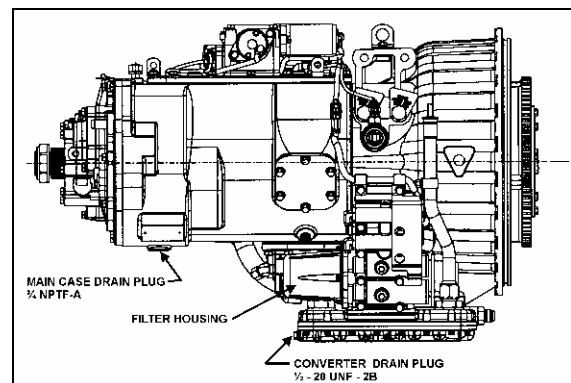

FIGURE 9: DRAIN PLUGS AND FILTER
1. Locate the drain plugs on the bottom of the transmission case and on the bottom of the torque converter housing pan (Fig. 9).
2. Run the engine for at least one minute. Shift to Drive (D) and operate the engine for 30 seconds at 1000-1500 rpm; then shift to Reverse (R) to clear the hydraulic system of air. Finally shift to Neutral (N) and allow the engine to idle (500 - 800 rpm).
3. While the engine is running, remove the dipstick from the tube and wipe it clean (Figs. 9 & 10).